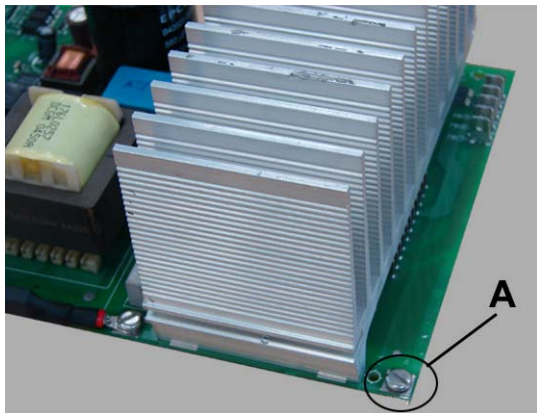

fig. 1
The securing of the inverter board (A2) to the support box. The inverter is fixed to the support board using six separators. Models HS / MS: six metal separators Models EH / EM: five isolated separators and a metal separator (consult position of metal separator (A) in figure 1)	Check: <ul style="list-style-type: none"> - The correct distribution of the separators. - The securing of the entire inverter board to the support.